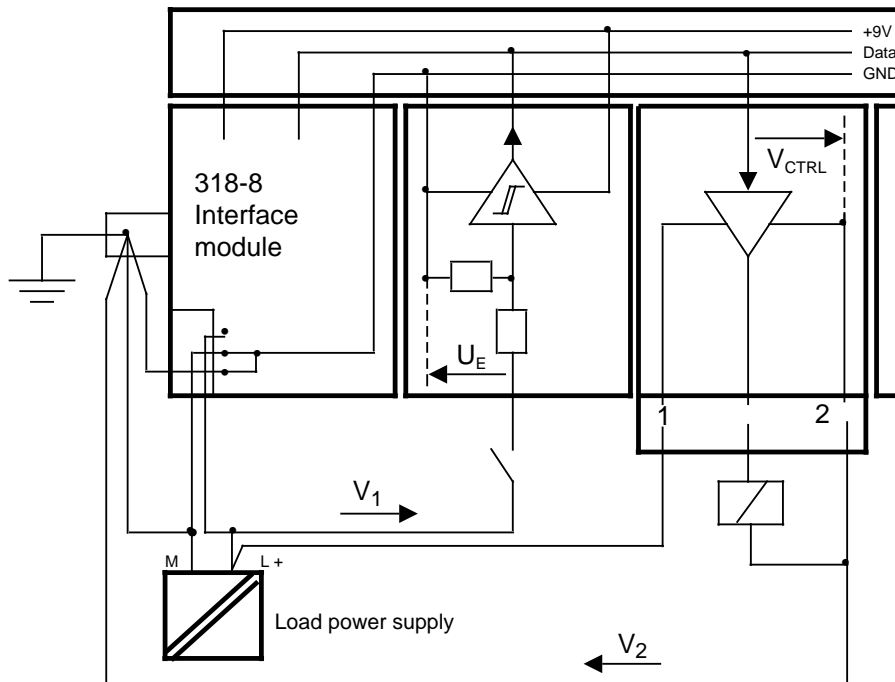

Figure 3-58 Simplified Description of Nonisolated Modules
Nonisolated modules can be used where the load circuit and the control circuit have the same ground. This is the case if they share the same power supply (3.3.1). In the case of nonisolated input modules, the GND line (control circuit ground) on the I/O bus is the reference potential. A voltage drop V_1 on line affects the input signal level V_I (Figure 3-58).
In the case of nonisolated output modules, terminal 2 (M) of the terminal block is the reference potential. A voltage drop of V_2 on line raises the ground potential of the output driver and thus reduces the resulting control voltage V_{CTRL} (Figure 3-58).